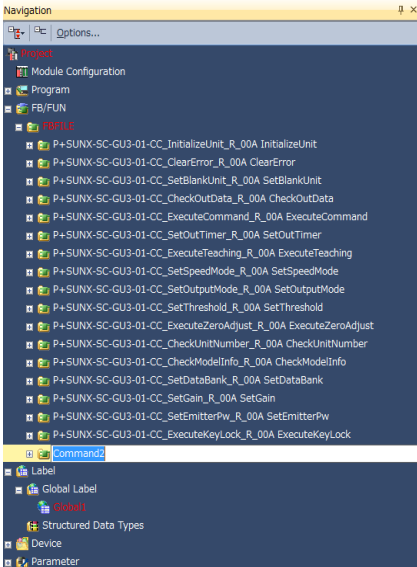

Figure 5.2-3 Renaming the FB
- Select the pasted FB and press "F2" on the keyboard to rename the FB. (Figure 5.2-3)